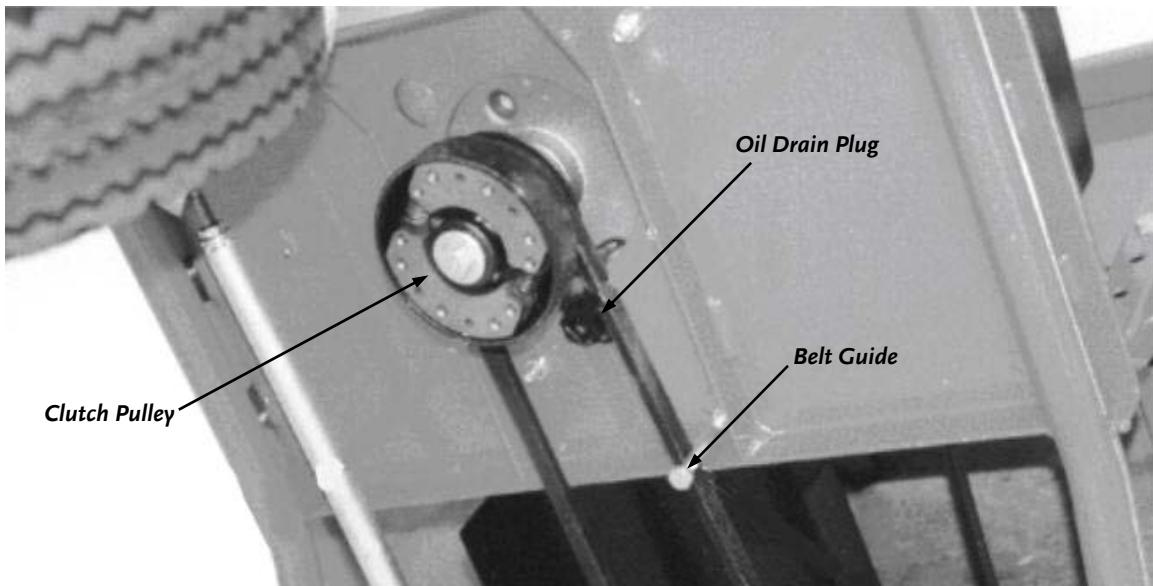

Figure 14
- SAE 30 High Detergent (HD) Oil (for winter use, use SAE 5W – 30W)
1. Using a 3/8" Ratchet and Extension, remove the Oil Drain Plug from the bottom of the Engine (**Figure 14**) and drain the oil.
6. Remove the Belt from the Clutch Pulley under the Engine (**Figure 14** on page 21).
7. Install the new Belt on the Clutch Pulley first, then the Transmission Pulley and then the Idler Pulley. Make sure the new Belt is **INSIDE** the Belt Guide near the Clutch Pulley (**Figure 14** on page 21).